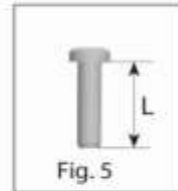

Fig. 5
- 4 Install the new STEPPER MOTOR pressure regulator assembly, as shown in Fig. 3 and Fig. 4. Use the supplied screws (F), M4 x 0.7 threaded, length of thread  $L=(16\text{ mm} + 0 - 0.5\text{ mm})$ , steel material, resistance class 8.8 (see Fig. 5).
- 6 Install the enclosed identification label (G) to the valve body where it can be easily seen.